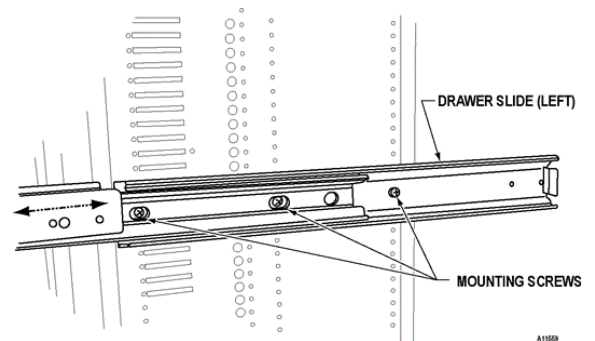

Fig 13
- Move the slide to expose the fixing screws - Fig 13